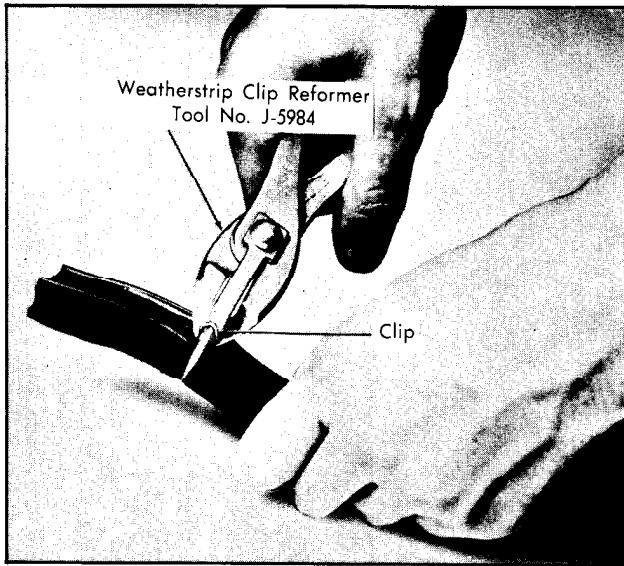

Fig. 17-14 Reforming Weatherstrip Clip
- Check weatherstrip clips for proper contour and reform, if necessary, using Clip Reforming Tool J-5984. (Fig. 17-14)
1. Check weatherstrip clips for proper contour and reform, if necessary, using Clip Reforming Tool J-5984. (Fig. 17-14)